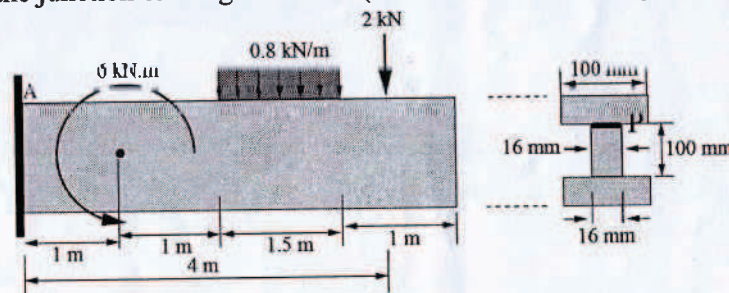

Fig. 7
4. For the cantilever beam with the shown loadings and cross-section, determine the absolute maximum bending stress in the beam. Draw the stress profile about the neutral axis. What is the value of stress at the junction of flange and web (location P shown in Fig. 7). (Marks: 6).